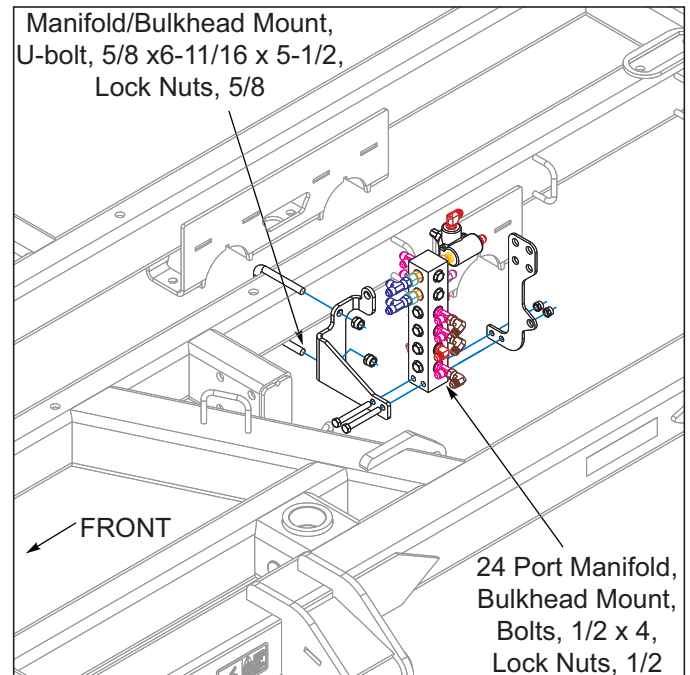

Figure 3-8: 24 Port Manifold 7531-23'-29'
3. Models 7531-23'-29' install the 24 manifold/bulkhead mount in position shown **See Figure 3-8**, using 5/8 x 6-11/16 x 5-1/2 u-bolts and 5/8 lock nuts. Attach the 24 port manifold and bulkhead mount with 1/2 x 4 bolts and 1/2 lock nuts.